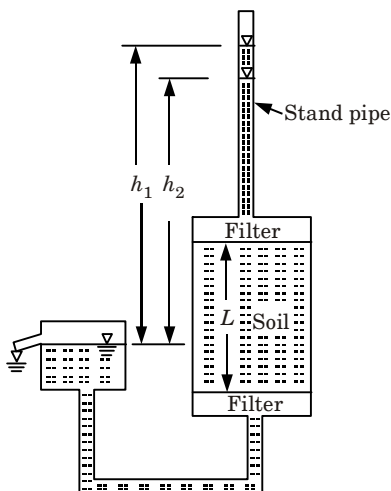

Fig. 2.8.2. Arrangement for variable-head permeability test.
- ii. A typical set-up for falling head permeability test is shown in Fig. 2.8.2. The water level in the stand pipe is observed from time to time.